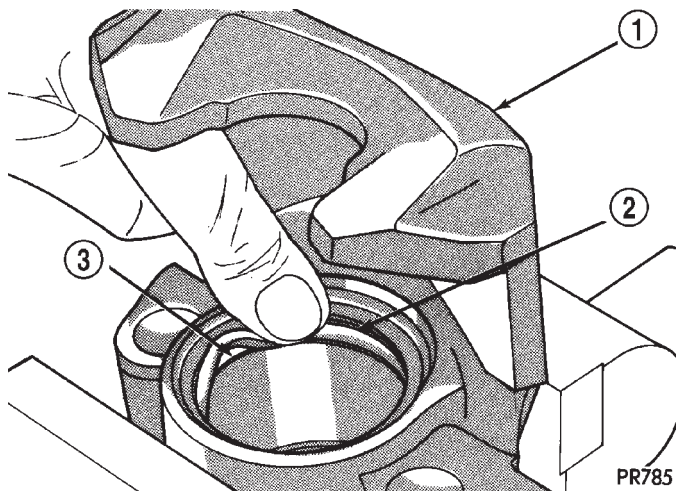

Fig. 168 Installing New Piston Seal
(1) Dip the new piston seal in clean brake fluid and install it in the groove of the caliper bore. The seal should be started at one area of the groove and gently worked around and into the groove (Fig. 168) using only your clean fingers to seat it.